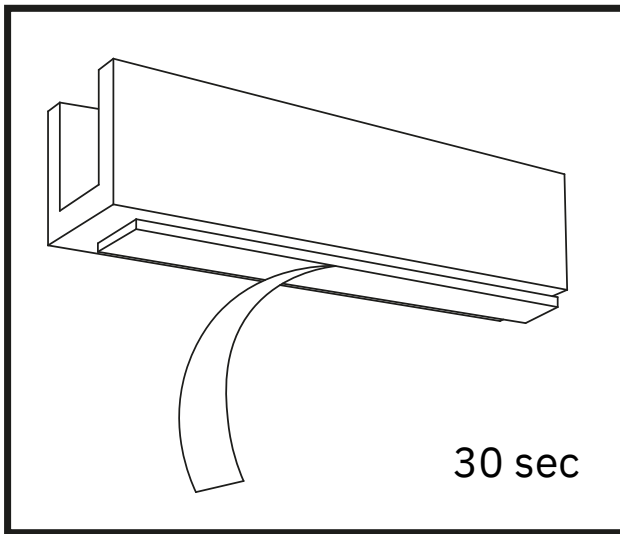

Figure 5
12. Remove the backing film from the double-sided tape on the profile and place the profile on the floor in the marked location. Press the lath firmly, holding the pressure for about 30 seconds. (Figure 5)